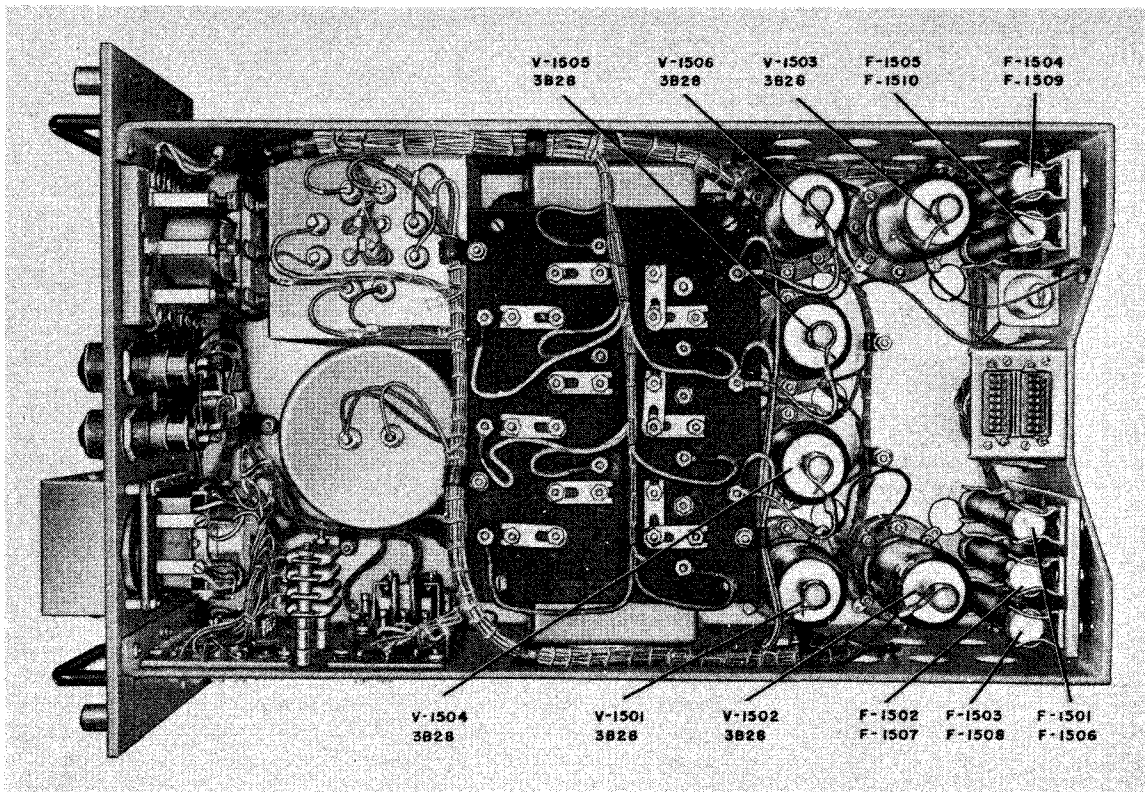

Figure 5-4. Power Supply PP-1096/SRT (HVPS), Top View, Tube and Fuse Locations
4.	Power Supply PP-1096/SRT (HVPS). (See figure 5-4.)